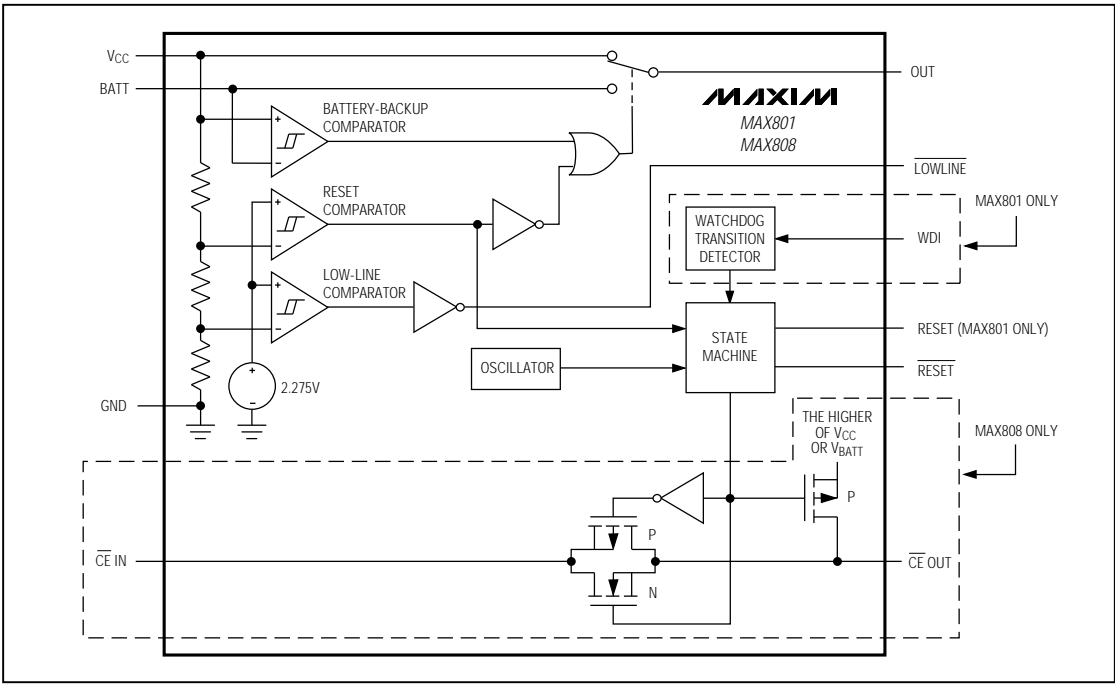

Figure 1. Functional Diagram
The MAX801/MAX808 microprocessor (μ P) supervisory circuits provide power-supply monitoring and backup-battery switchover in μ P systems. The MAX801 also provides program-execution watchdog functions (Figure 1). Use of BiCMOS technology results in an improved, 1.5% reset-threshold precision while keeping supply currents typically at $68\mu\text{A}$ ($48\mu\text{A}$ for the MAX808). The MAX801/MAX808 are intended for battery-powered applications that require high reset-threshold precision, allowing a wide power-supply operating range while preventing the system from operating below its specified voltage range.
The MAX808 provides internal gating of chip-enable (CE) signals to prevent erroneous data from corrupting CMOS RAM in the event of a power failure. During normal operation, the CE gate is enabled and passes all CE transitions. When reset is asserted, this path becomes disabled, preventing erroneous data from corrupting the CMOS RAM. The MAX808 uses a series transmission gate from the chip-enable input ($\overline{\text{CE IN}}$) to the chip-enable output ($\overline{\text{CE OUT}}$) (Figure 1). The 8ns max chip-enable propagation from $\overline{\text{CE IN}}$ to $\overline{\text{CE OUT}}$ enables the MAX808 to be used with most μ Ps.